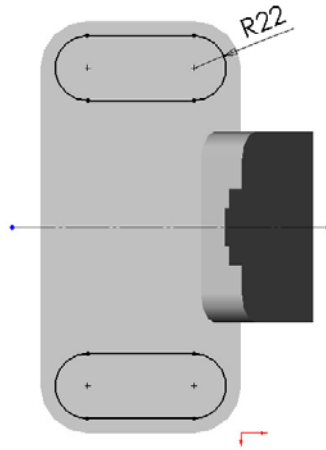

Figure 19 Hole boss sketch
14. Select **Dimension**  on the Sketch Relation toolbar. Dimension the sketch as shown in Figure 19.